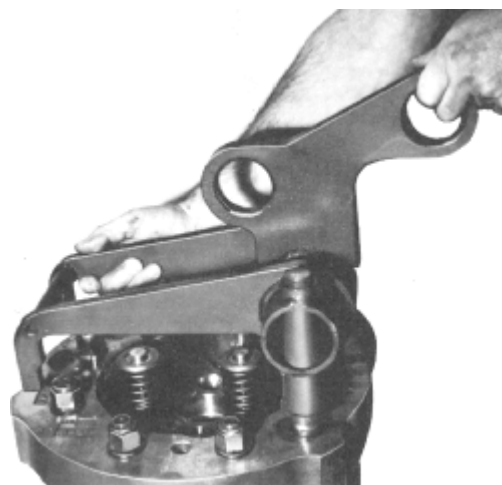

Fig. 5-29 - Lifting Clamp Application
9. Install the lifting clamp, Fig. 5-29, and secure it with the rocker arm shaft nuts.